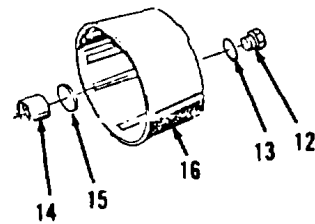

Figure 4-72.
4. Disconnect wire assembly (6) at terminal.
5. Remove washer (7), bushing (8) and seal (9). Discard seal (9).
6. Remove four nuts (10), lockwashers (11) and items 12 thru 16 as an assembly.
7. Remove plug (12) and seal (13) from cover (16, Figure 4-72). Discard seal (13).
8. Using spring collet and extractor, remove and discard bearing (14) and spacer (15) from cover (16).